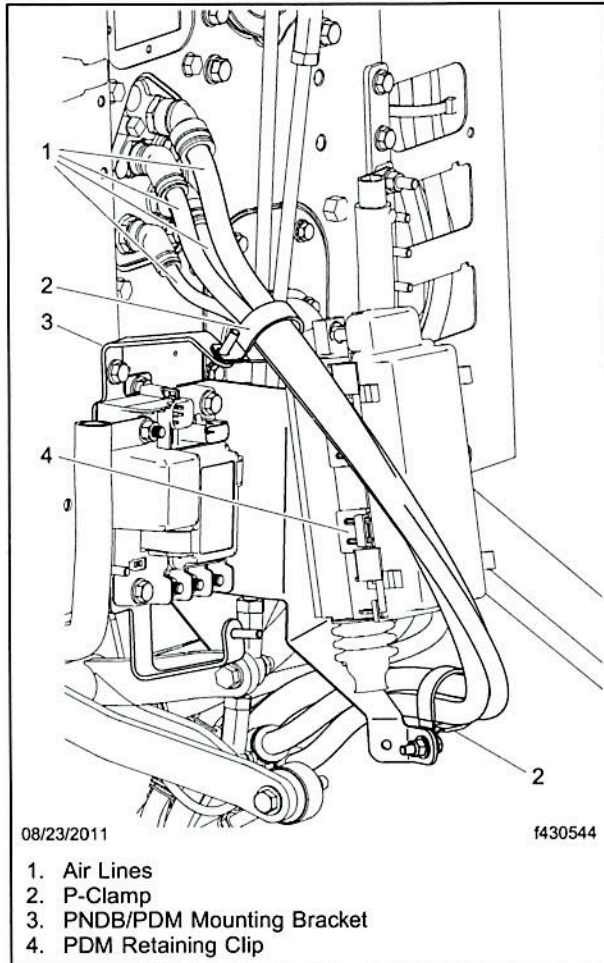

Fig. 1, Disconnecting the Air Lines
5. Mark the air lines as needed, then disconnect them from the foot valve pass-through. See **Fig. 1**. Free the air lines from the PNDB/PDM mounting bracket, then push them out of the way to give access to PNDB/PDM mounting bracket.
6. Remove the power train PDM from the PNDB/PDM mounting bracket by releasing the two clips on the outboard side of the PDM. See **Fig. 1**.